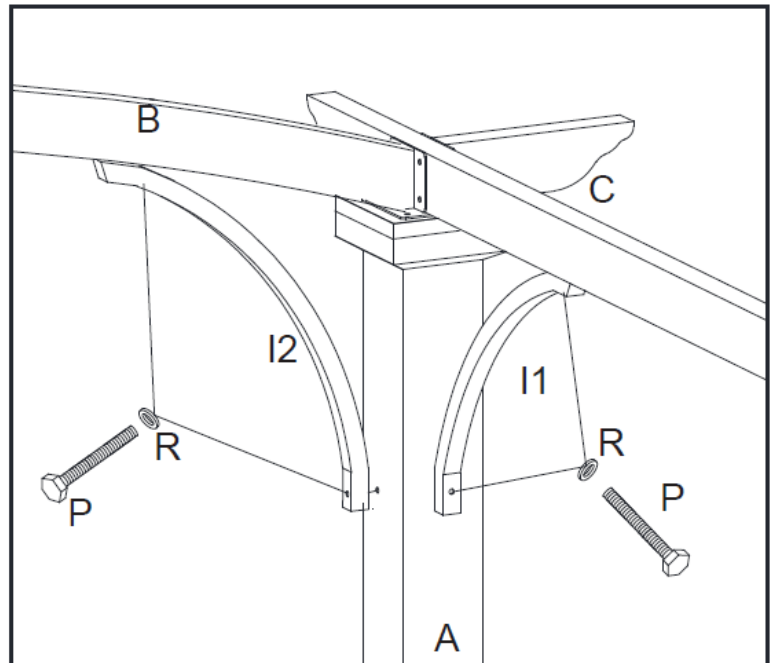

Figure 5-2
Step 5B: Attach Curved Corner Post Brace (I1) to the Corner Posts (A) and the Outside Lintel (C) using Bolts (P) and Washers (R). Repeat this step for attaching the Curved Corner Post Brace (I2) to the Corner Posts (A) and the Curved Top Beam (B) using Bolts (P) and Washers (R). See Figure 5-2.